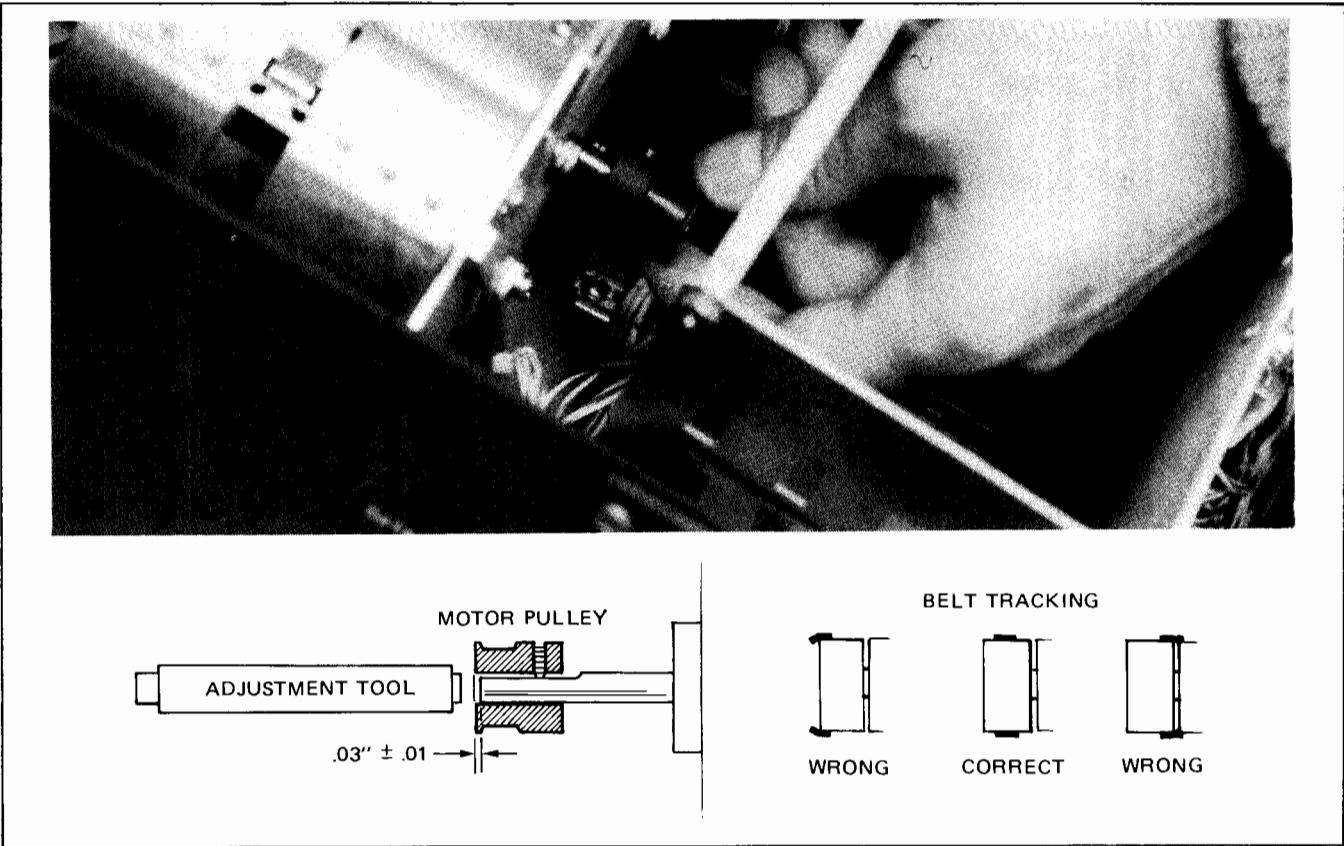

Figure 5-17. Motor Pulley and Belt Tracking
b. Turn pulleys in correct direction until belt establishes its natural position. It should not overlap any of pulley edges. (Belt tracking.) See Figure 5-17.